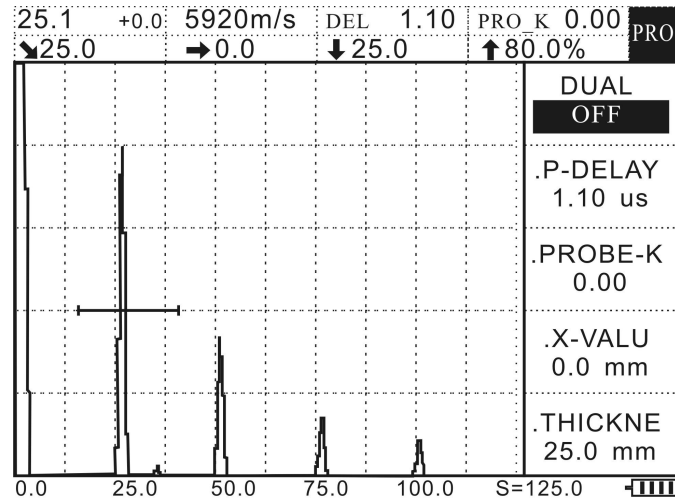

Figure 4-3
4. Set Gate A to lock the first echo. Press **AUTO GAIN** to make the highest echo reach 80% of the screen. The sound path value is displayed on the screen. If the vertical sound path is not 25mm, press **PROBE**, then press **▲** (up) or **▼** (down) to select the probe zero submenu. Then press **▶** (right) to adjust the value till the vertical sound path is 25mm. At this point, the probe zero is the zero after calibration, as shown in Figure 4-3.